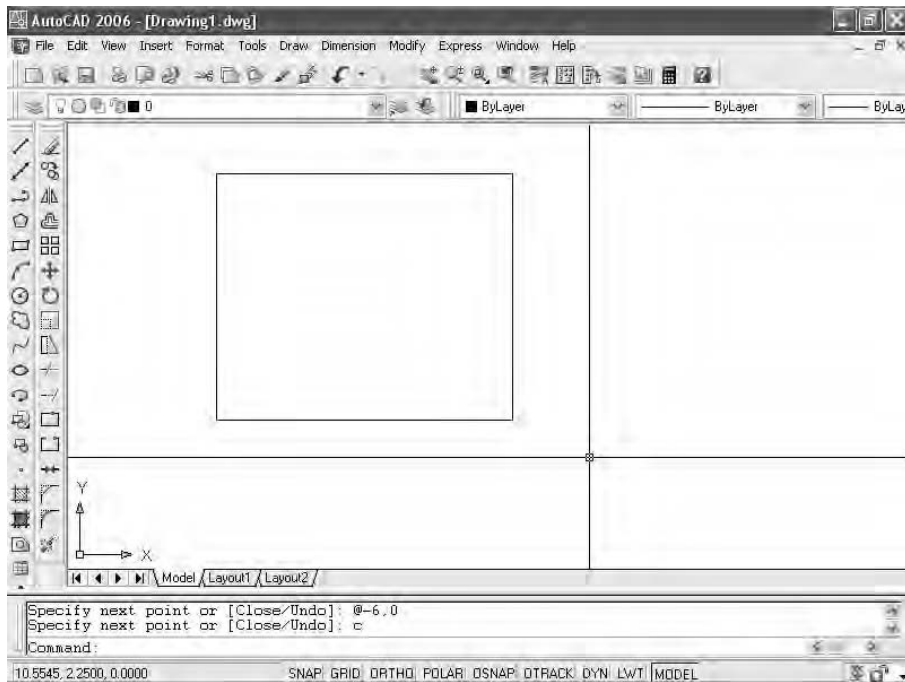

FIGURE 2.8: The first four lines of the box
7. Type c↵. The letter *c* stands for *close*. Entering this letter after drawing several lines closes the shape by extending the next line segment from the last point specified to the first point (see Figure 2.8). It also ends the Line command. Notice that in the Command window the prompt is Command: . This signifies that AutoCAD is ready for a new command.
6. Type c↵ to close the box and end the Line command. Your box will once again resemble the box shown earlier in Figure 2.8.